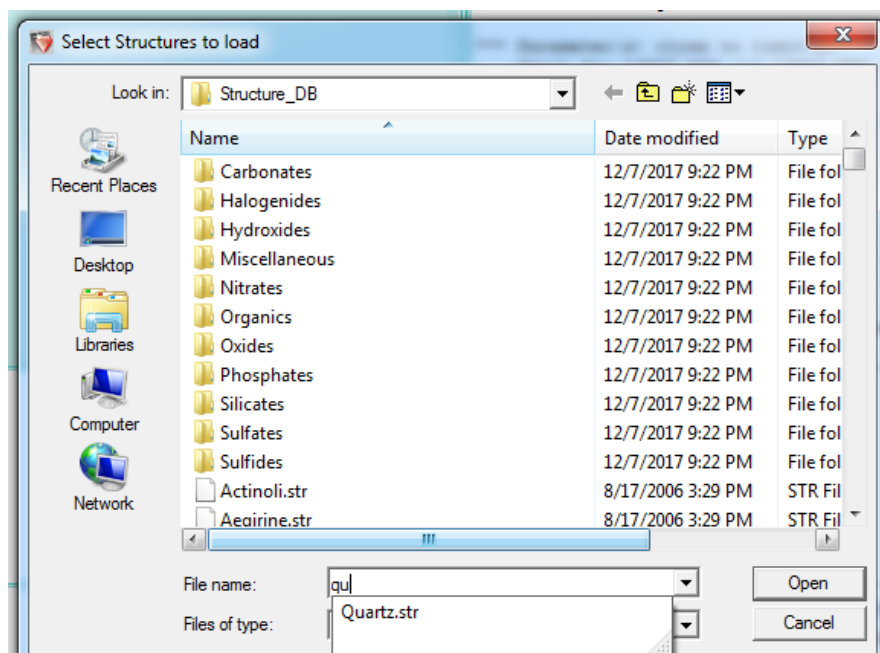

Figure 15. STR Library
2. Select the minerals from the pop up window (Figure 15). You can search through the mineral groups or start typing in the mineral and it will appear in the bar.